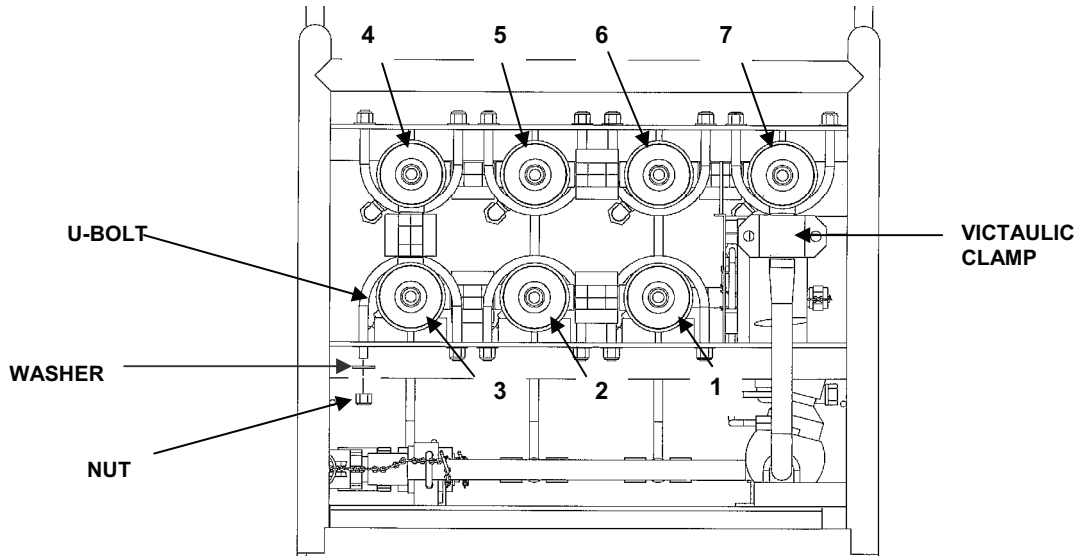

Figure 2. Pressure Vessel Mounting Hardware.
6. Remove two nuts and washers from U-bolt and remove the U-bolt. See Figure 2.
- b. Install U-bolt, two nuts, and two washers. Do not tighten. See Figure 2.